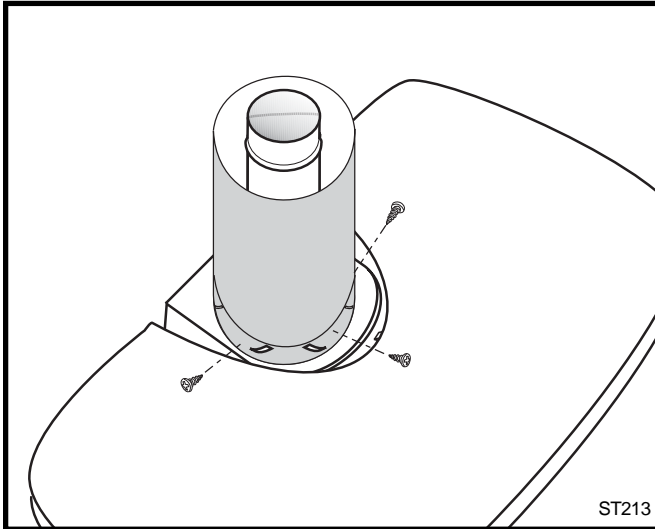

Fig. 25 Fasten outer pipe with #12 x 1/2" sheet metal screw.
- 5. Install the Outer Adapter Pipe.** Apply a 1/4" bead of cement around the inside wall of the pipe, about 1" from the end. Insert the pipe over the stove flue collar, keeping the vertical seam oriented to the back of the stove. Also, be sure to align holes on the pipe with the holes on the flue collar of the firebox. Fasten the pipe to the holes in the flue collar with the #12 x 1/2" sheet metal screws provided. (Fig. 25)